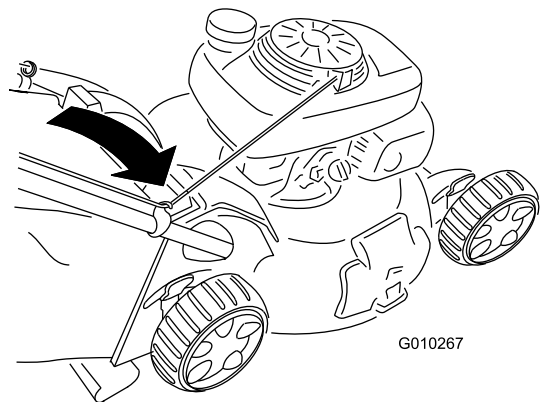

Figure 28
2. Route the starter rope around the lower-rope guide (Figure 28).